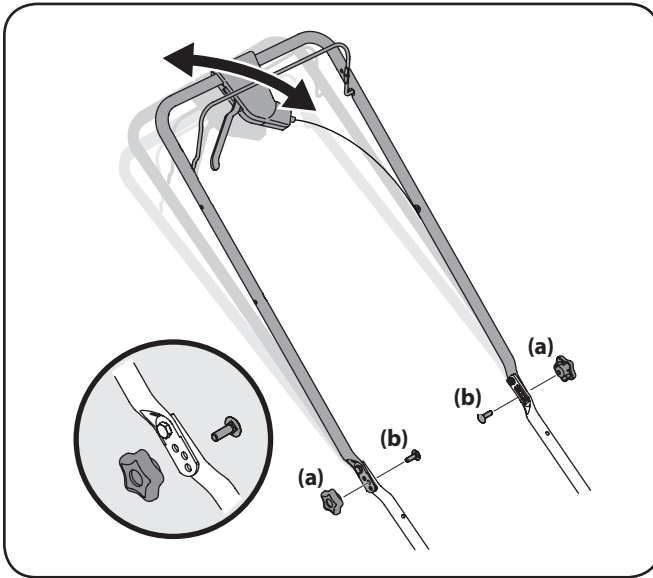

Figure 3-11
1. Remove star knobs (a) and carriage bolts (b) from handle. See Figure 3-11.
2. Position the handle in one of the three positions that is most comfortable. See Figure 3-11 inset.